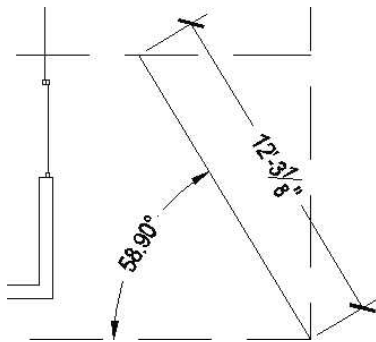

FIGURE 12.34: The roof with the angular dimension added
- When you're finished, your drawing will look like Figure 12.34.